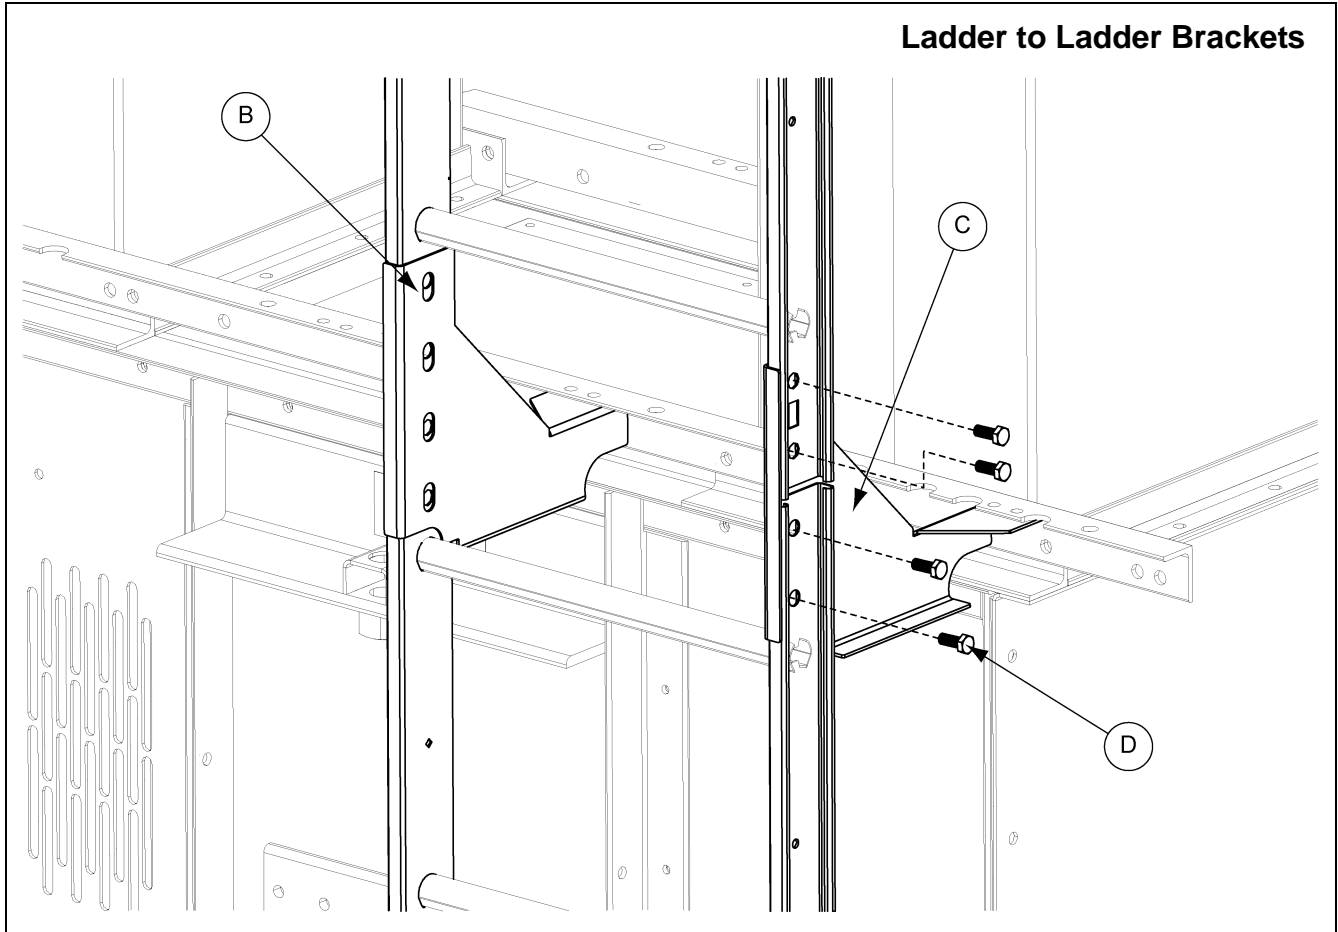

Figure 6F
2. Attach trimmed ladder section to the left and right ladder brackets using 1/2" x 1" hex bolts (S-7935) (D) through the bottom most set of holes.
3. Attach the next ladder section to the ladder brackets using 1/2" x 1" hex bolts (S-7935) (D) through the top set of holes. *(See Figure 6F.)*